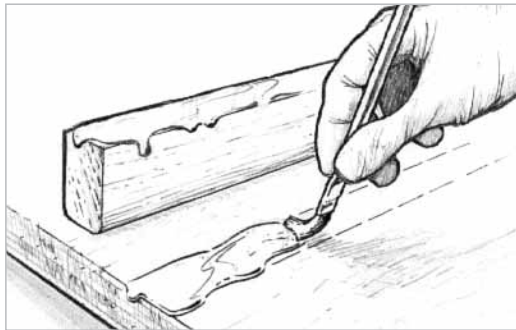

Figure 5-8 Wet out bonding surfaces with unthickened epoxy for maximum penetration and greater adhesion.
1. **Wet-out bonding surfaces**—Apply a neat resin/hardener mixture (without fillers) to the surfaces to be joined (*Figure 5-8*). Wet out small or tight areas with a disposable brush. Wet out larger areas with a foam roller or by spreading the resin/hardener mixture evenly over the surface with a plastic spreader. You may proceed with step two immediately or any time before the wet-out coat becomes tack free.